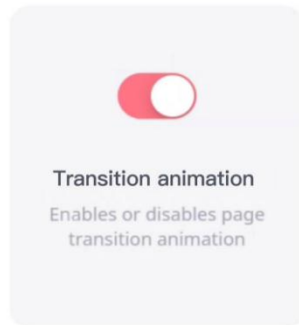

Figure 5.4-13
- Click "Display" to enable or disables page transition animation. When clicking this button to jump to each page, the speed will be slower, and when closing, it will be the opposite. (see Figure 5.4-13)